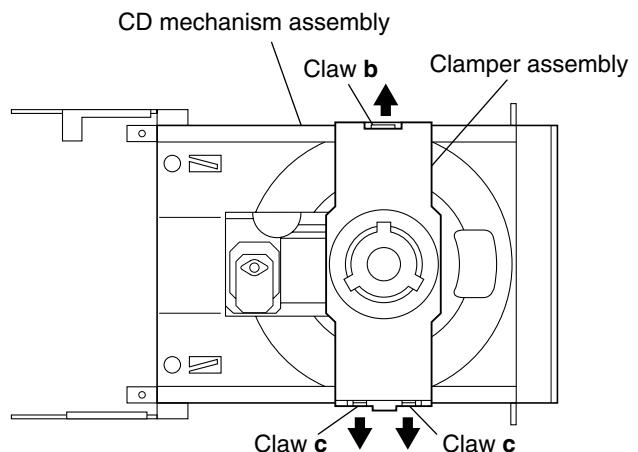

Fig.4
(See Figs. 4 to 7.)
1. From the top side of the CD mechanism assembly, open up the claws **b** and **c** at the left and right of the clamper assembly and lift the assembly to remove it. (See Fig.4.)
1. Remove the left and right side plates. (See **Figs. 4 to 7** of "Main body section" on page 1-7.)